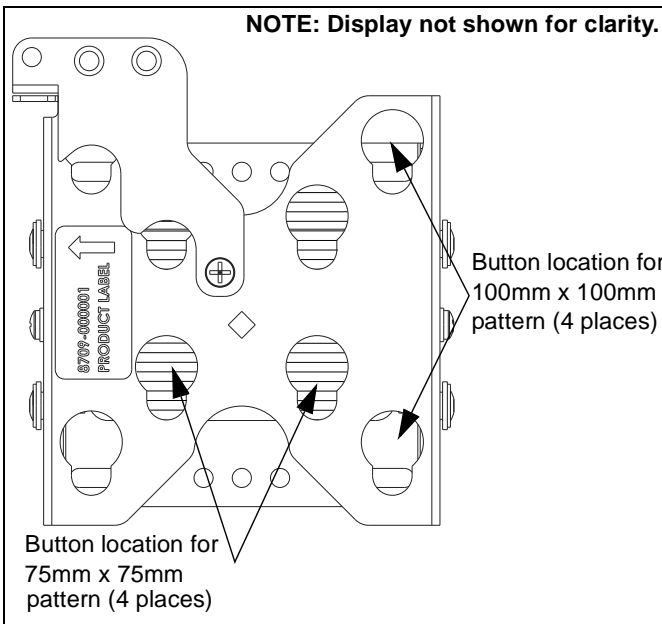

Figure 8
NOTE: Example shows mounting display in the 100mm x 100mm pattern. FTR1U/FTR100 assembly (A) will also accommodate a 75mm x 75mm pattern. (See Figure 8)